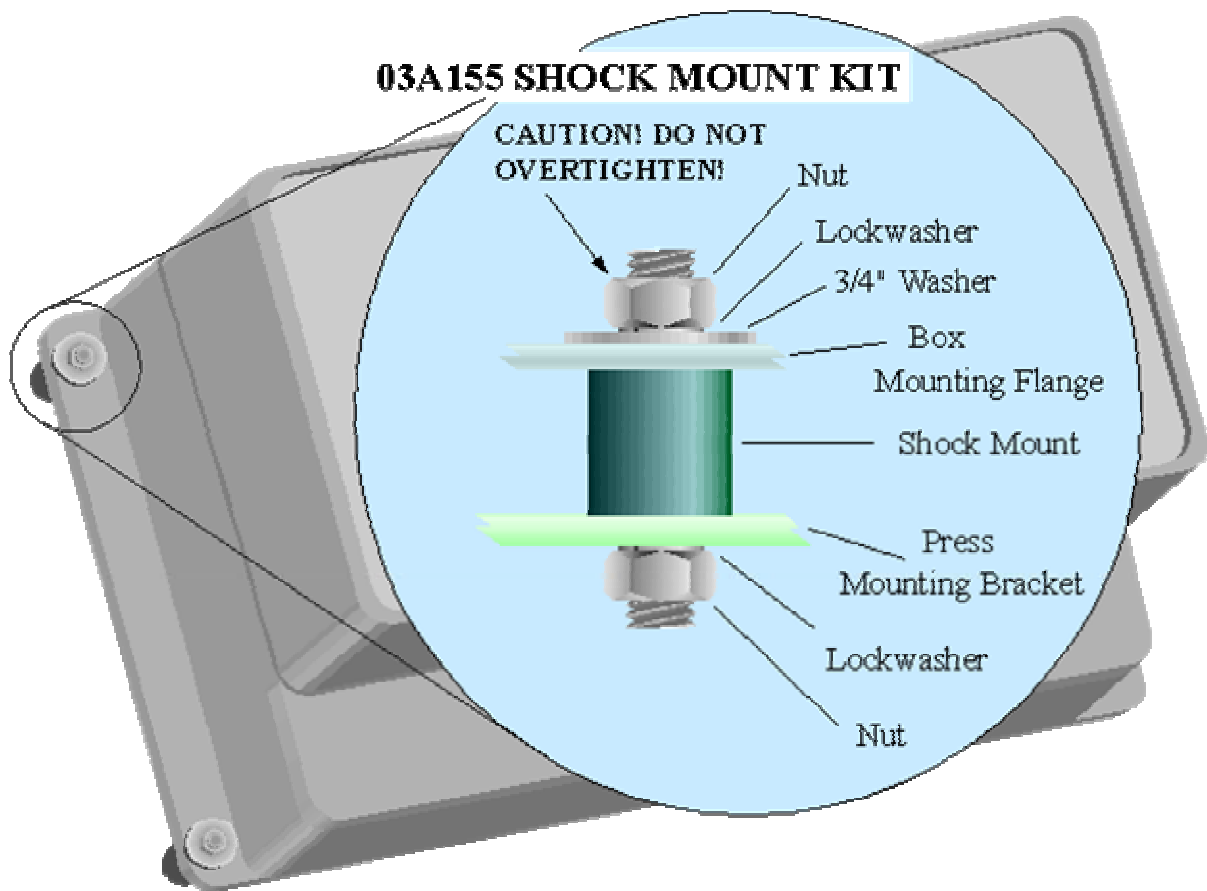

Figure 1
**Mount the unit to the press.** Use the Shock mount kit provided with the unit and install it exactly as shown in Figure 1.